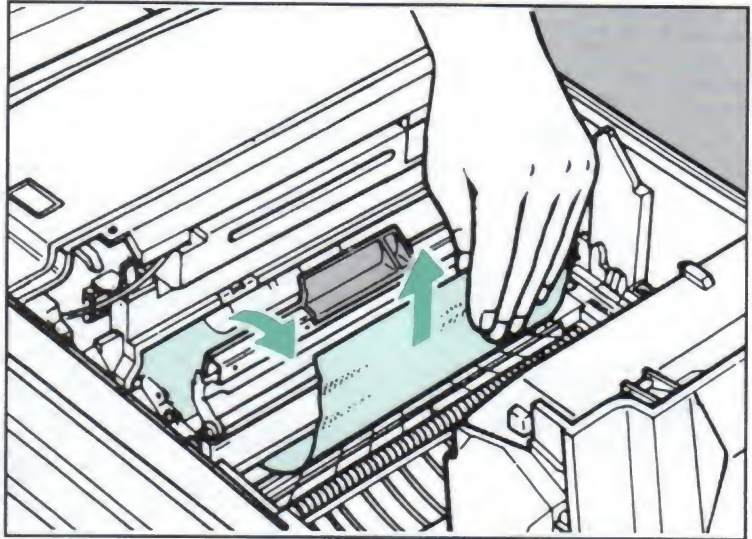

Figure 7-3. Clearing the Transfer Guide Area (rear view)
4. If the jam occurs in the transfer guide area, lift the green handle and remove the jammed paper as shown in Figure 7-3.